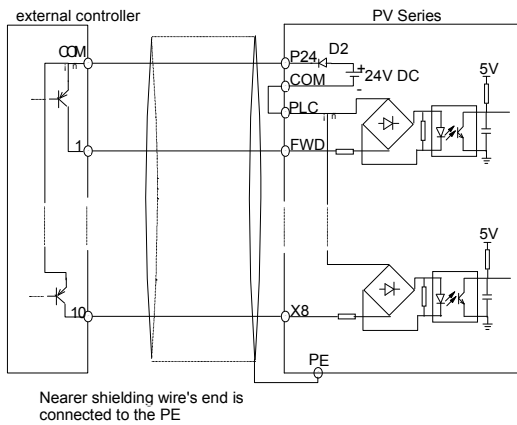

Fig. 3-24 Connection method 2 (b)
② Drive's internal +24V power supply is used and the external controller uses PNP transistors whose common emitters are connected, as shown in Fig. 3-24.